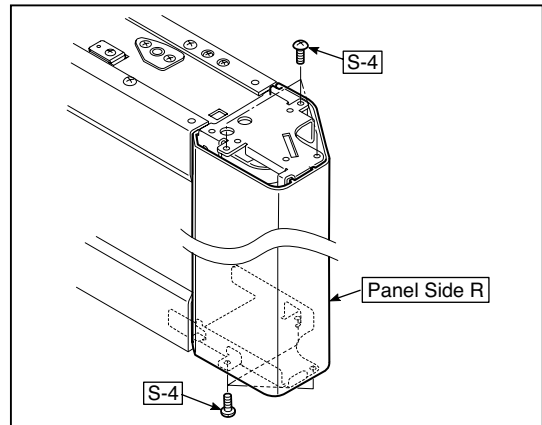

Fig.11
2. Remove the Panel Side R. (See Fig. 11)
- 1 Remove the "S-4" screws shown in the figure 11 and then remove the Panel Side R.